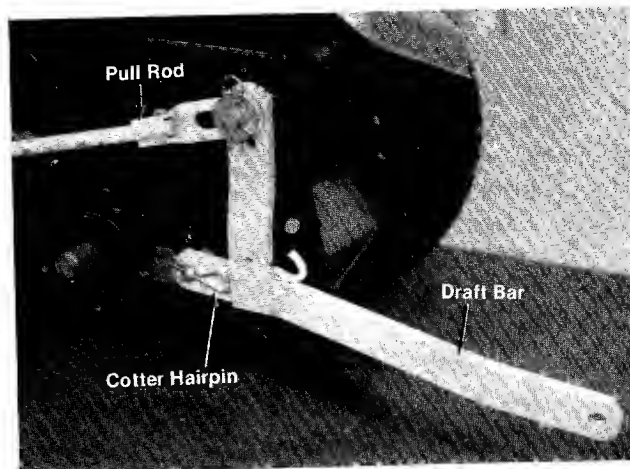
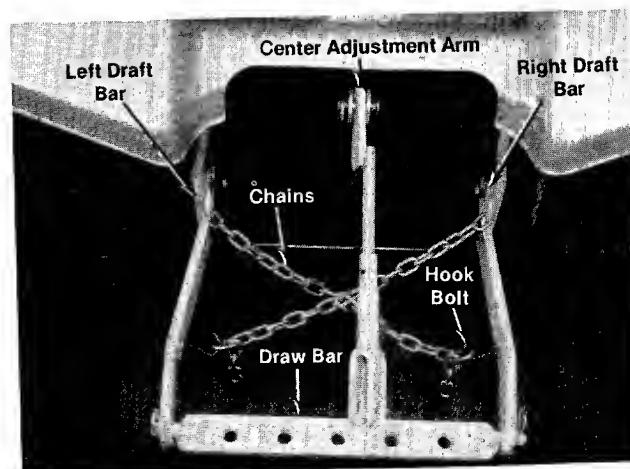

Figure 5
Figure 6
2. Assemble the two draft bars as shown. (Refer to figure 6 to determine which is the right and left draft bars.) Secure with cotter hairpins. (See figure 5.)
3. Attach the flat end of the pull rod to the top hole in the draft bar with a clevis pin, flat washer and secure with cotter hairpin. (See figure 5.)
4. Assemble the draw bar to the draft bars and secure each end with a cotter hairpin. (See figure 6.)
6. Place a lockwasher next to the hex nut and insert the hook bolt through the inside of the draft bar. Secure using a second nut. Do not tighten. (See figure 6.)
11. Assemble the flat end of the center adjustment arm to the upper hole in the center hitch bracket with a clevis pin, two flat washers and a cotter hairpin. (See figure 6.)